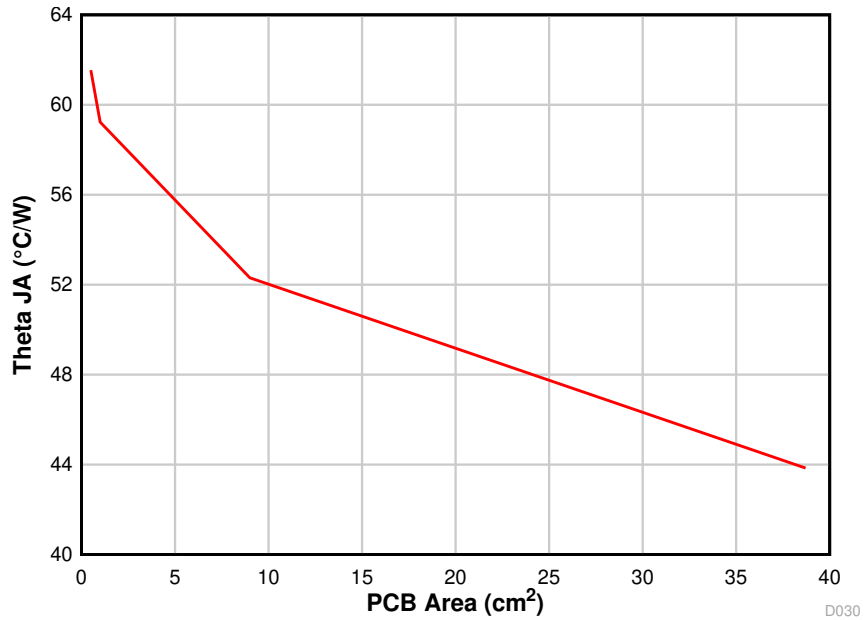

Figure 10-3.  $\theta_{JA}$  versus PCB Area
The amount of PCB copper affects the thermal performance of the device. Figure 10-3 shows the effects of copper area on the junction-to-ambient thermal resistance ( $R_{\theta JA}$ ) of the TPSM265R1. The junction-to-ambient thermal resistance is plotted for a 4-layer PCB with an area from 0.5 cm2 to 39 cm2.
3. Reference Figure 10-3 to determine the minimum required PCB area for the application conditions.